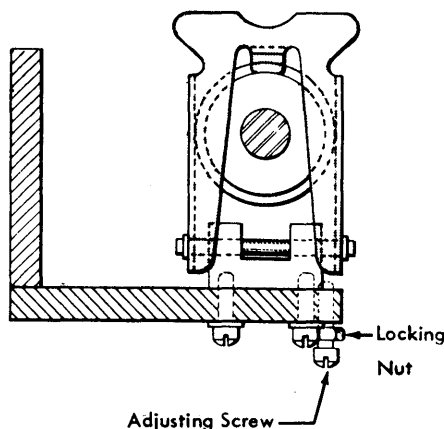

Figure 4-26. Side Aligner
3. The following step is necessary only on machines with an adjustable left side aligner. With the machine still at 351°, loosen the left side aligner lock nut, and turn the left side aligner adjusting screw to position the left side aligner surface 37/64" from the inside of the left side frame (Figure 4-26). Tighten the lock nut. With a card against the left side aligner, adjust the right side aligner in a similar manner so that its aligning surface just touches the card at 351°. Tighten the lock nut.